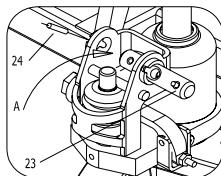

Fig.1
Please refer to figure 1, and pull out the pin shaft (23).